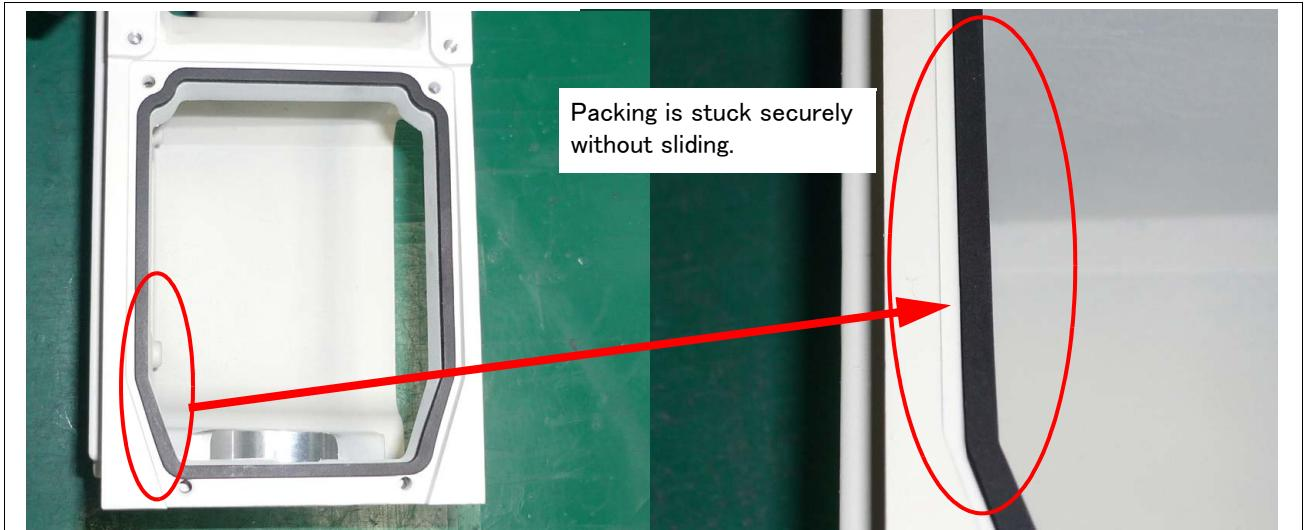
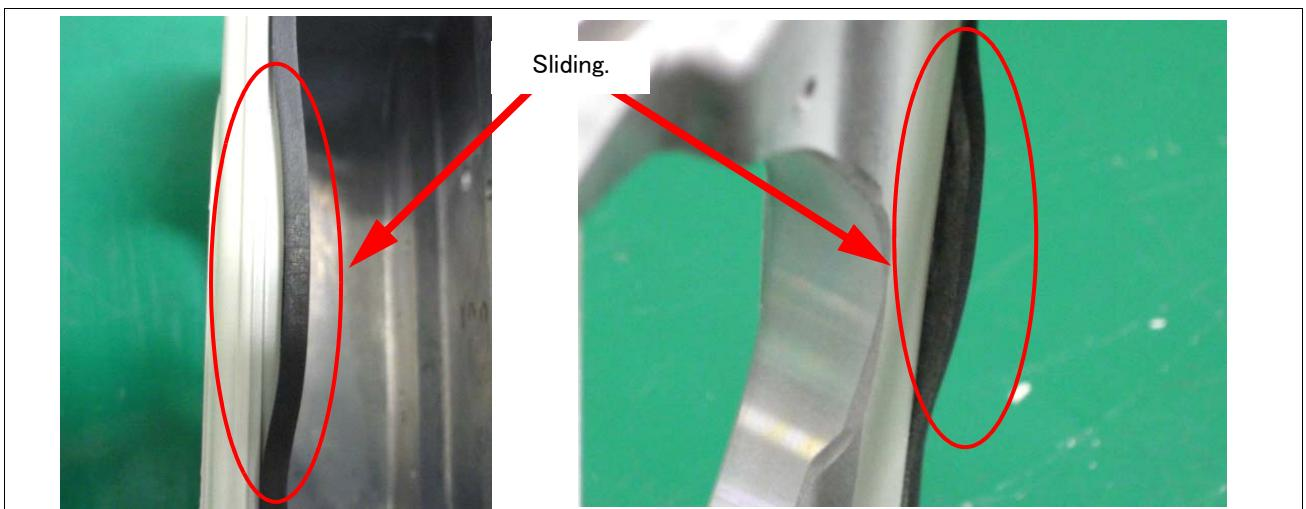
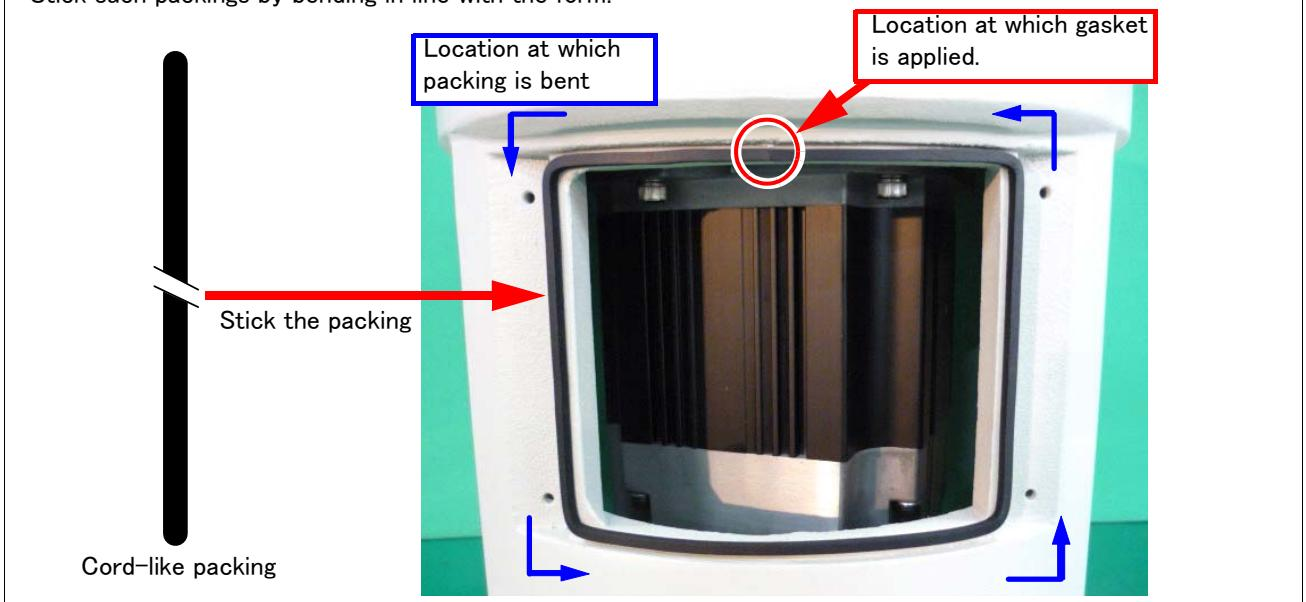

Fig.5-5 : Example of sticking packing (good example)
Fig.5-6 : Example of sticking packing (bad example)
Fig.5-7 : Sticking the cord-like packing
- 2) The sticking surface of packing is double-coated adhesive tape. Referring to "Fig.5-5 : Example of sticking packing \(good example\)" and "Fig.5-7 : Sticking the cord-like packing", and stick the packing in line with form . Be careful for the packing not to slide. The example of unsuitable packing slid is shown in "Fig.5-6 : Example of sticking packing \(bad example\)".